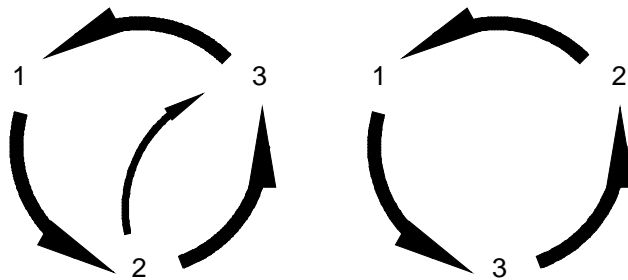

Figure 14
6. Press both cut buttons simultaneously to activate the motor and check to make sure it is turning the same direction as the arrow on the motor casing. If it isn't, disconnect the power and simply exchange any two leads of the power cord as in Figure 14 on page 18. The motor will now turn the correct direction. Double check to make sure.
6. Press both cut buttons simultaneously to activate the motor and check to make sure it is turning the same direction as the arrow on the motor casing. If it isn't, disconnect the power and simply exchange any two leads of the power cord as in Figure 14 on page 20. The motor will now turn the correct direction. Double check to make sure.